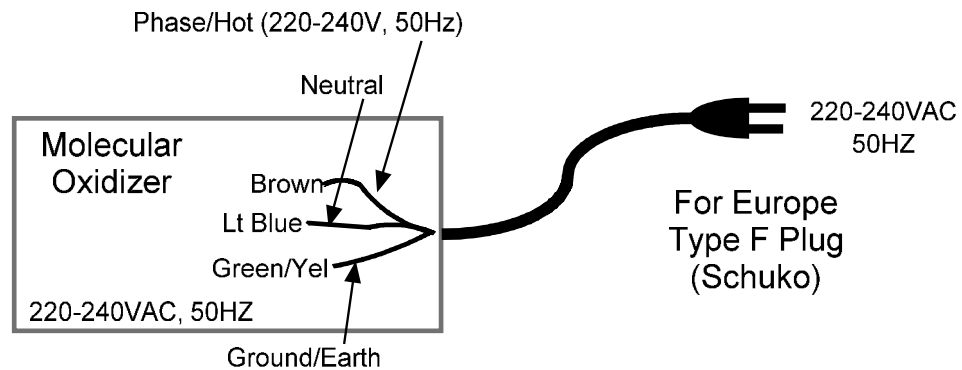

FIGURE 2
115VAC -- When a two-prong receptacle is encountered (Figure 2), a temporary connection may be made where local codes permit using an adapter (P & S #1919 or equivalent). The adapter provides a means for plugging a three-prong cord set into a two-prong receptacle. The adapter should not be used without a proper ground connection. Attaching the adapter ground wire to the receptacle cover screw will not ground the machine, unless it is known that the cover screw is grounded through the “house” wiring.
230VAC -- Refer to Figure 2 for the 220-240VAC, 50HZ CE model that is supplied with the (CE) cord.